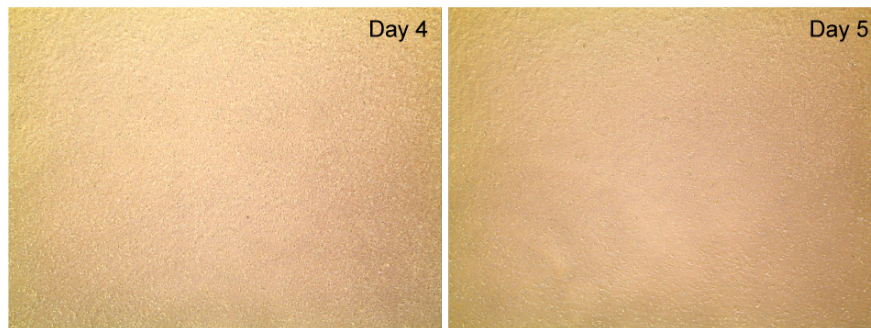

Figure 4: Anterior foregut endoderm induction.
- Feed cells without Rock inhibitor every day. (Fig.4)